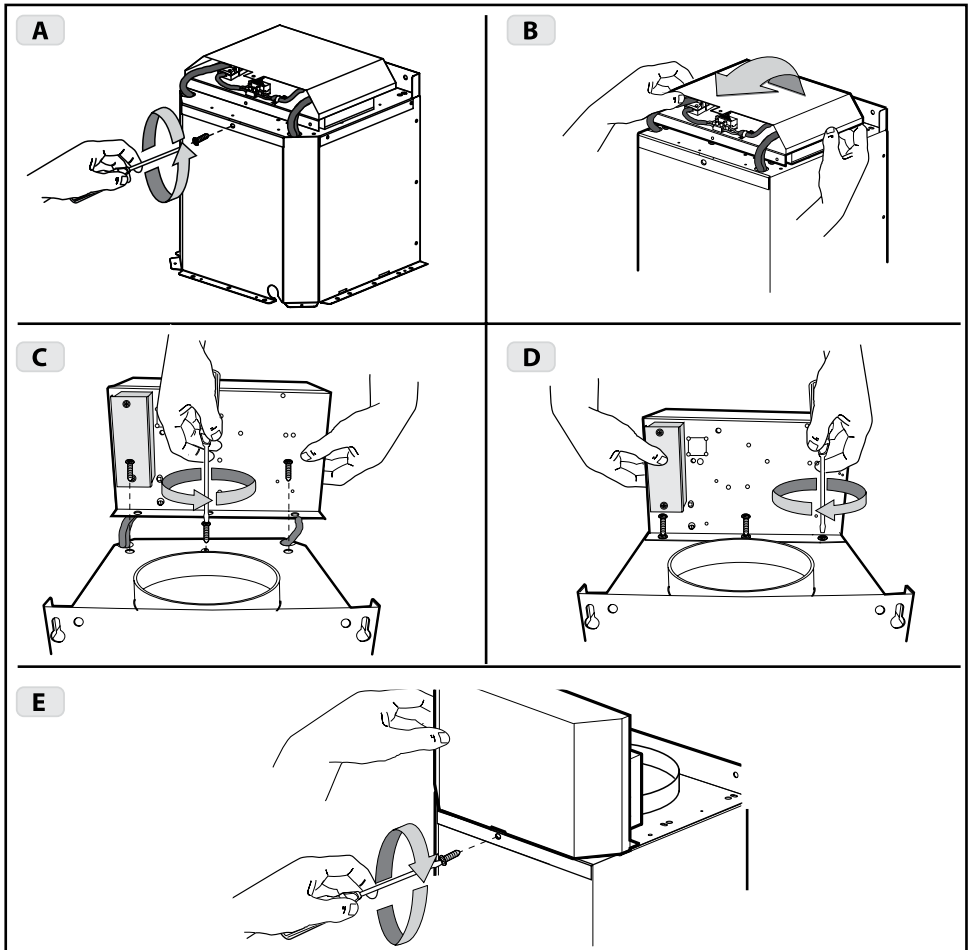

Fig.1
- ### ■ **WARNING** - TO REDUCE THE RISK OF FIRE, ELECTRIC SHOCK, OR INJURY TO PERSONS, OBSERVE THE FOLLOWING: Before making electrical connections to power supply, the electrical box must be secured in place as indicated in Fig.1. Before installing the appliance fix the electrical box as indicated in Fig.1.